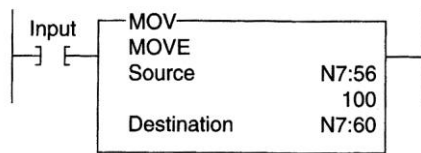

Figure 10-35 Move instruction program for assignment 11.
11) Enter the move instruction program of Figure 10-35 into the PLC, and prove its operation.